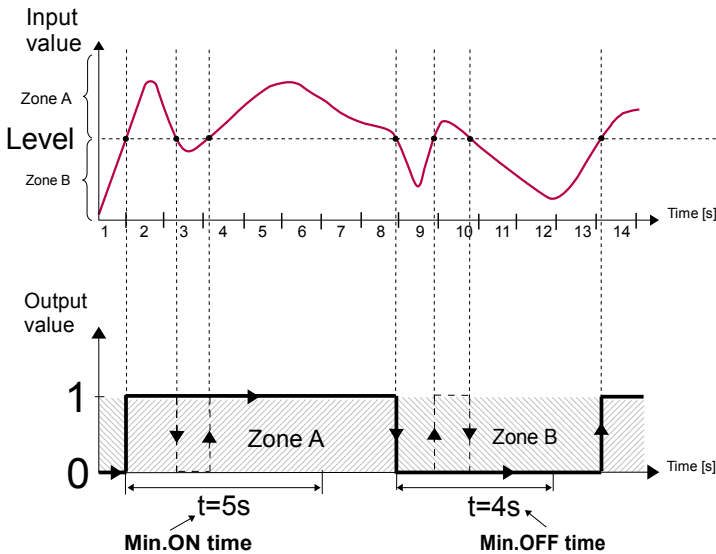

Fig. 7.90. Principle of relay output operation for sample timing settings:
- high state the low state will occur after this time) - see **Fig. 7.90**,
- **Minimum OFF time** - the minimum duration of a low state (if the output switches to low state the high state will occur after this time) - see **Fig. 7.90**,